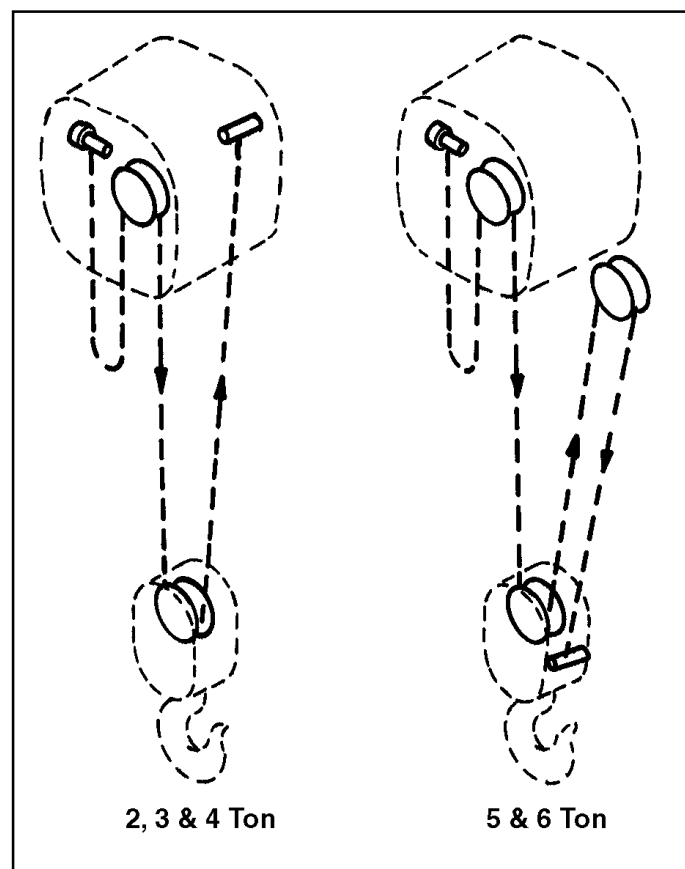

Figure 7-9. Reeving for 2 thru 6 Ton Models
- On the two load chain 2 and 3 thru 6 ton models, reeve the hoist in accordance with Figure 7-9. Make sure there is no twist in the chain.